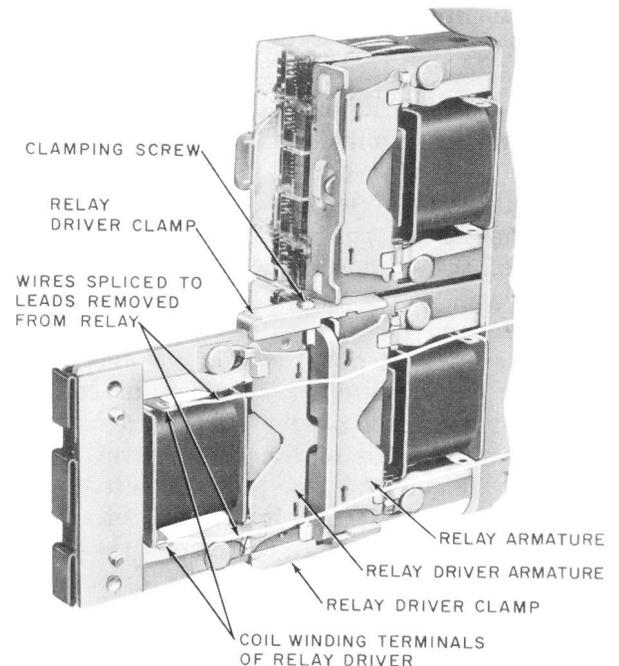

Fig. 5—Relay Driver Mounted on 287-Type Relay
3.07 286-, 287-, and 288-Type (Wire-Spring Type) Relays: The relay driver clamps on the upper and lower core legs of the relay with the mounting surface of the driver against the core plate and the outer ends of the relay core legs in the slot in the mounting surface. Figure 5 shows the relay driver mounted on a 287-type relay. To mount the driver, proceed as follows: